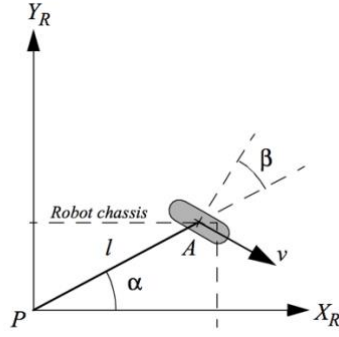

Figure 1: Standard Fixed Wheels
The robot moves using three Swedish wheels. The three Swedish wheels allow for omni-directional motion because of the inner rollers that are not along the same axis of rotation as the main wheels. The wheel constraints of the Swedish wheel are based from the wheel constraints of a standard fixed wheel, outlined in **figure 1** below obtained from a Carnegie Mellon paper (1). Namely, α is defined as the angle between the local frame and the wheel base, β is defined as the angle between the wheel plane and the chassis. It is important to note that these two are fixed since the local axis fixed, as it is always with respect to the robot, and the wheel is not steerable, so the wheel base angle cannot change. The parameter l , as defined in the assignment, is the length between the robot base and the wheel base.